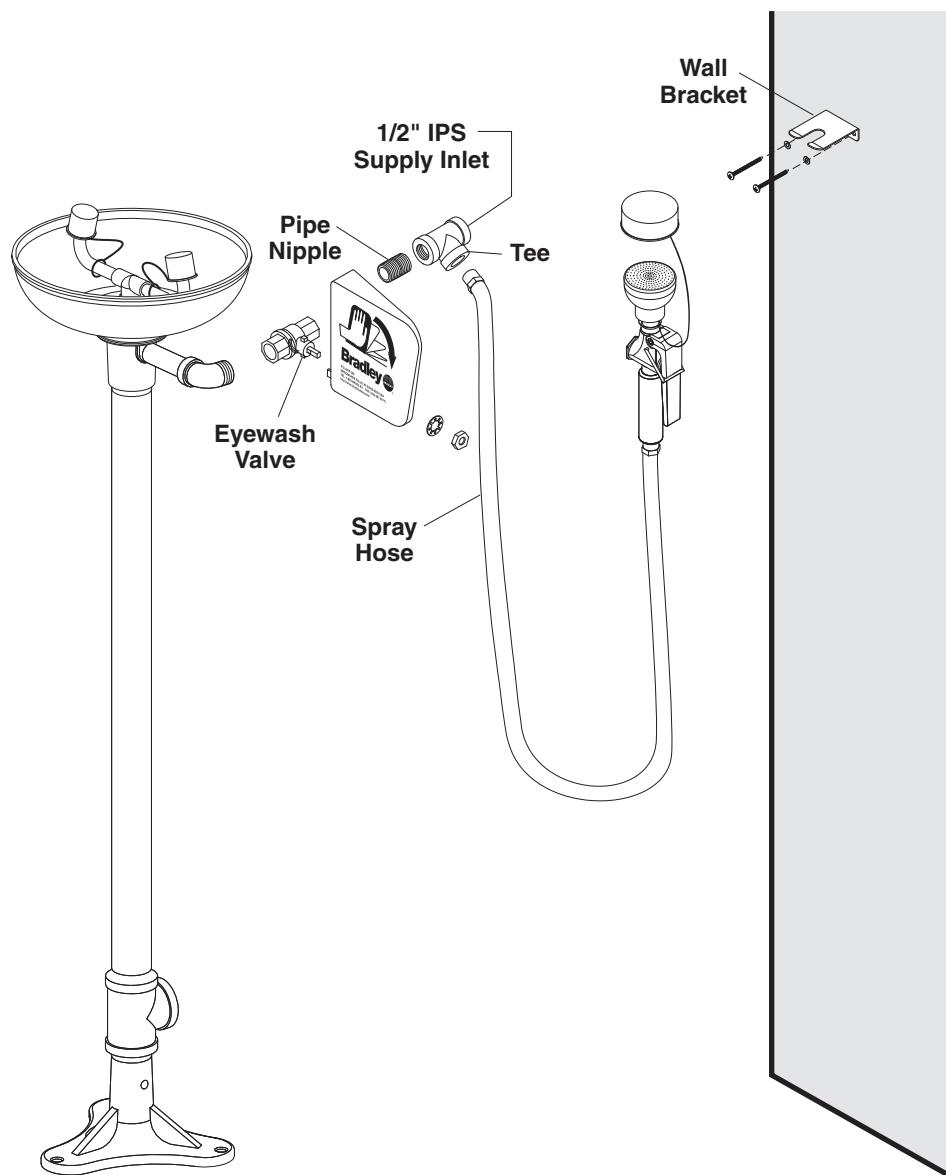

Figure 1
1. Connect the pipe nipple and the pipe tee to the eyewash valve as shown in Figure 1.